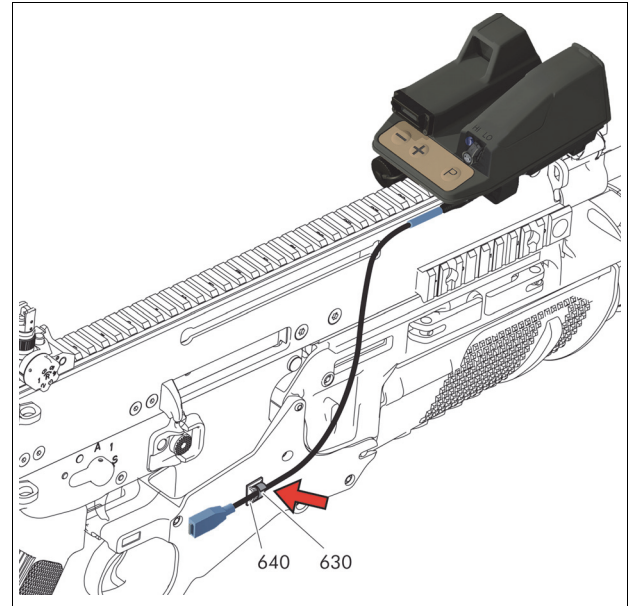

Fig. 3.g - Guiding the control cable for rifle, RH-user
- Fasten the control cable to the adhesive-backed cable clip (640) with a velcro (630) (see Fig. 3.g).